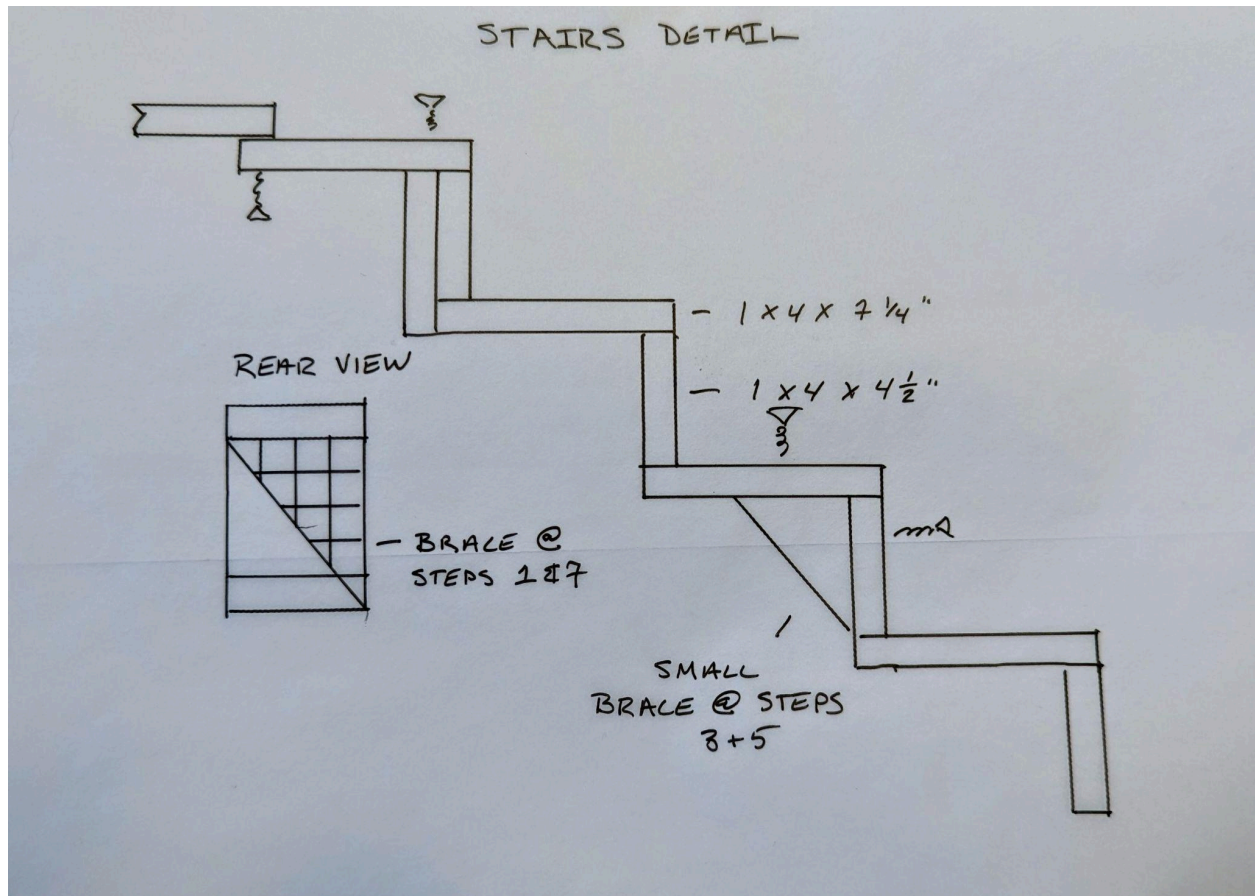

Figure 10
- Braces - 4 each as in Figure 10